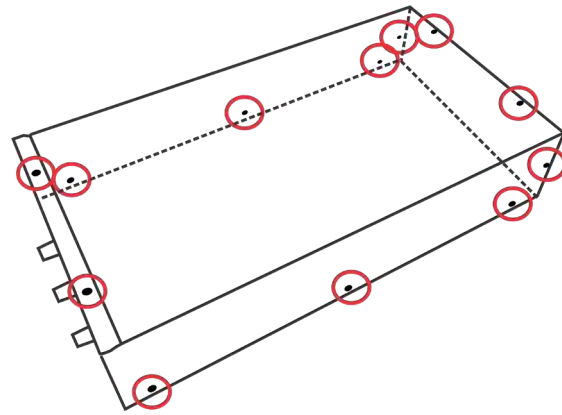

Figure 5.1 – Cover Screw Locations
2. Use a #1 Phillips screwdriver to remove the twelve (12) Phillips-head screws, as shown in **Figure 5.1**.